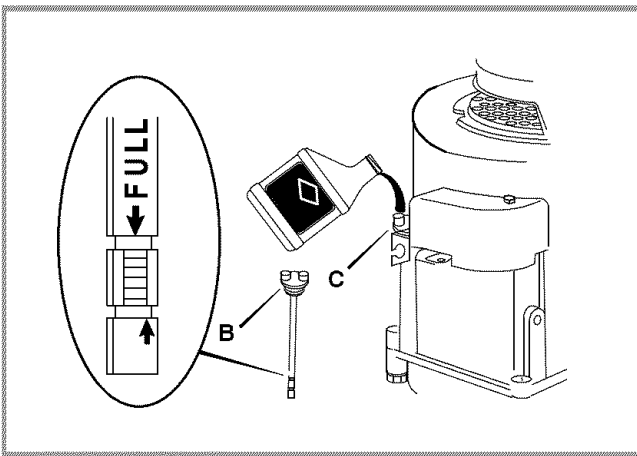

Figure 19: Oil Fill
- 9 Before checking the oil level, wait 2 minutes for the oil to drain out of the oil fill. Then, install the dipstick and check the oil level. Make sure the oil is at the FULL mark shown on the dipstick (see Figure 19). Do not overfill.
- 7 Remove the dipstick (B) from the engine oil fill (C). Wipe the dipstick with a clean cloth.